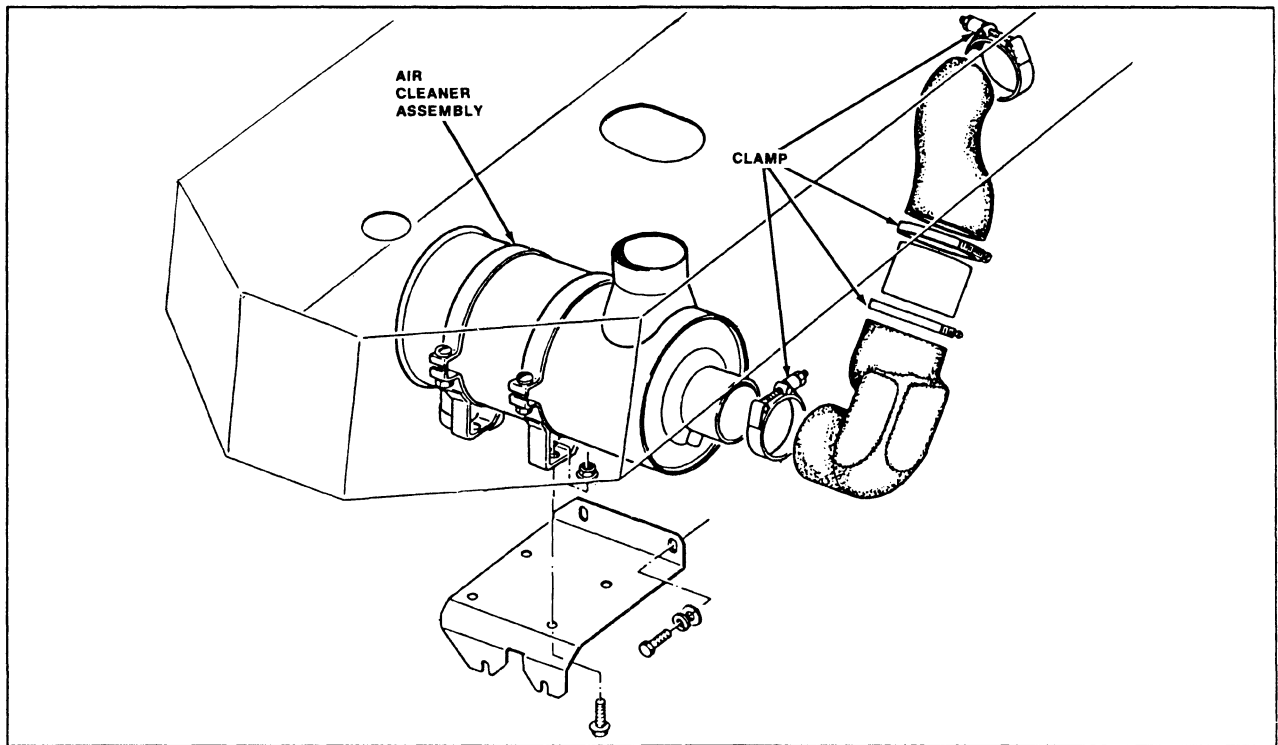

FIGURE 2-5: Air Cleaner Assembly Removal
6. Remove clamp on pipe to air cleaner from turbocharger, and remove air cleaner assembly (Figure 2-5).
15. Install air cleaner body and air intake pipe to the turbocharger. Tighten clamp securely and ensure the connection is sealed (Figure 2-5).